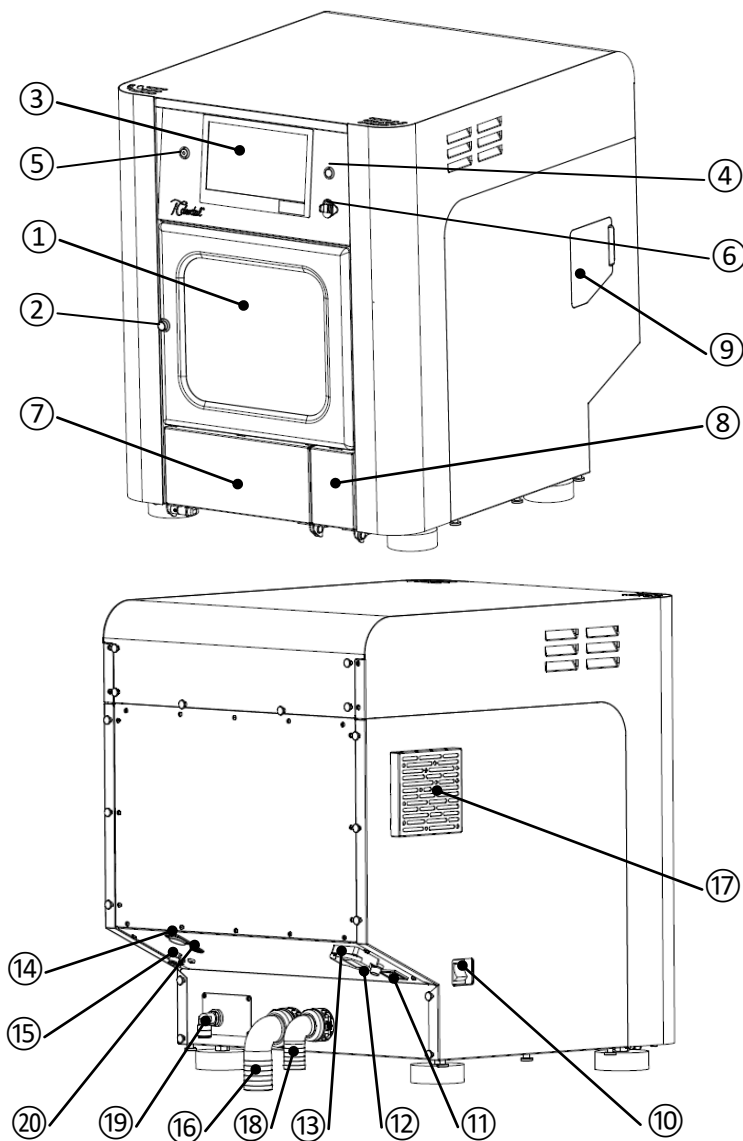

Figure 2 Front view and rear view of the machine
When the machine is being stored or shipped, milling spindle **ALWAYS** needs to have a transport pin [Figure 2] or any milling tool to secure its collet chuck.
Fuse of the control unit [Figure 2 / 12]: 250V / 5 AT, 6.3x32 mm – 1 piece.
The Milling Unit can be connected to the computer having the **PiCAM** software installed through an Ethernet (RJ45) connector [Figure 2 / 14] with Ethernet cable.
Any external drive supporting USB 2.0 can be connected to the USB port of the machine [Figure 2 / 6].
Connect the **Ø8x6 mm** pneumatic hose to the quick connection [Figure 2 / 15]. **Method of assembly: section 6.9**
1. Turn-on the machine with the Main switch [Figure 2 / 10] and the Power button [Figure 2 / 5] to activate the main air valve.
3. Open the cover lid on right side [Figure 2 / 9].
1. Connect the electric plug of the dust extracting equipment into the relevant socket on the Milling Unit *[Figure 2 / 13]* and **turn on the main switch on the dust extracting equipment.**
3. Connect the elbow fitting to extraction outlet *[Figure 2 / 16]*.
1. Place the standalone Coolant Pump Unit ① under the machine back side, on the floor.
2. Connect the interface cable of Pump Unit ⑨ to machine's socket [Figure 2 / 20].
3. Connect the outlet pipe ④ of Pump Unit to machine's inlet fitting [Figure 2 / 19].
5. Connect the quick coupling of inlet pipe ⑦ to plug ⑧ of Coolant tank ②.
6. Push the end of drain pipe ⑤ to tank's pipe case ⑥.